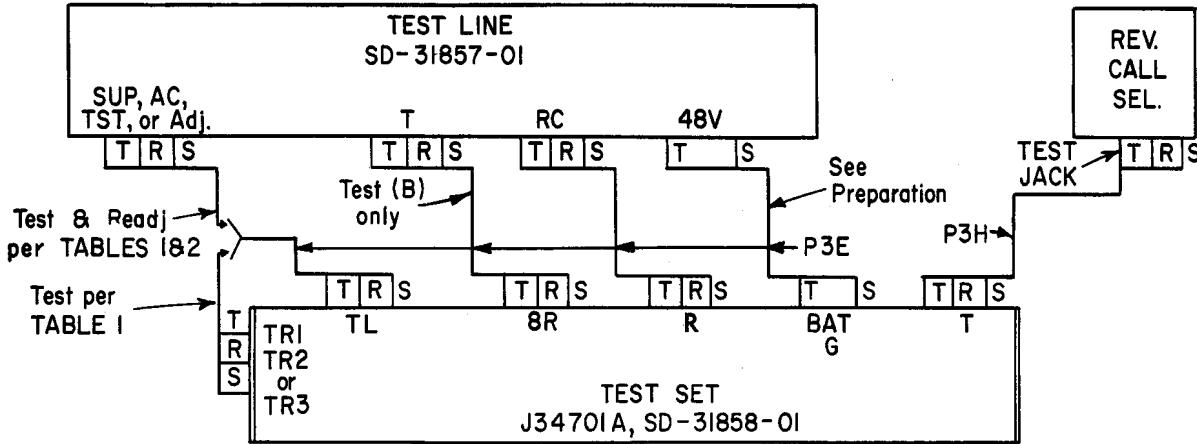

Fig. 1
1.06 When testing reverting call selectors which have a 60- to 75-volt silent interval tripping battery, and for which ac requirements are specified, any ring-trip relay which fails on test shall be readjusted to meet the requirements in Section 040-236-701 and the readjust ringing current values provided by the test line. These values are obtained by connecting the TL jack of the test set to the AC jack of the test line as shown in Fig. 1 and Table 1.
| 1 | Connect the test line to the test set as shown in Fig. 1 as required by Table 1 or Table 2. | |